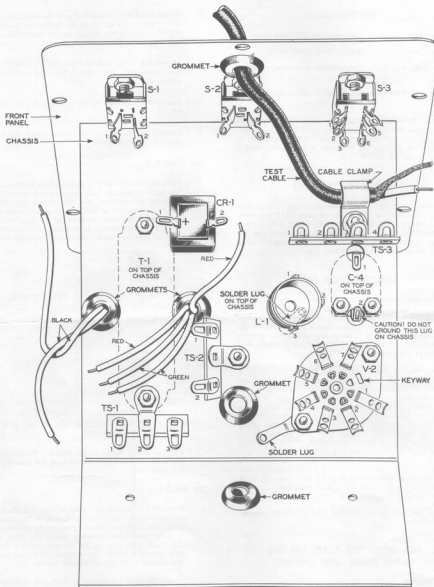

FIGURE 3. HOW TO MOUNT PARTS ON THE CHASSIS
SEE FIGURE 3.
- () Position the chassis as shown in Figure 3. Mount the socket for V-2, from the inside, in the lower right corner of the chassis. Position the keyway, or wide open space between two of the pins, to the right. Use two of the shorter screws and nuts. Mount a solder lug between the socket and the chassis with the lower left screw.
- () Install the four grommets in the holes indicated in Figure 3.
- () Mount TS-2, a strip with two terminals, as shown in Figure 3. Use a shorter screw and nut to fasten it.
- () Push the 2 black leads from T-1 (the power transformer) through the left, center grommet. Push the 2 red and 2 green leads from T-1 through the grommet to the right. Fasten the upper mounting tab of T-1 with a shorter screw and nut. Mount TS-1 as shown in Figure 3 with the other short screw and nut used to mount T-1.
- () Bend the terminals of C-4 to fit through the holes in the chassis as shown in Figure 3. Mount C-4, the ceramic trimmer capacitor, on top of the chassis with 2 long, thin screws and nuts. Do not allow the terminals to touch the chassis.
- () Mount the coil, L-1, as shown in Figure 3. Position L-1 with terminal 2 to the right. Tighten a nut on the front mounting screw of L-1. Use a solder lug and nut on the other mounting screw of L-1. Position the solder lug as shown in Figure 3.
- () Mount TS-3 and the Cable Clamp with the same screw and nut in the hole above C-4. Before tightening the nut put the Test Cable under the Cable Clamp as shown in Figure 3. The Cable Clamp must hold the insulated part of the Test Cable.